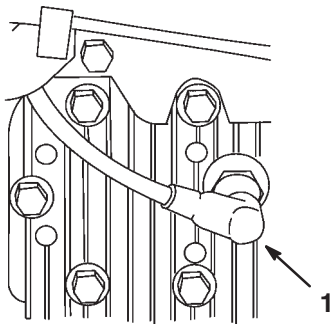

Figure 15
1. Stop engine and pull wire off spark plug (Fig. 15).
1. Stop engine and wait for engine to cool. Pull wire off spark plug (Fig. 15).